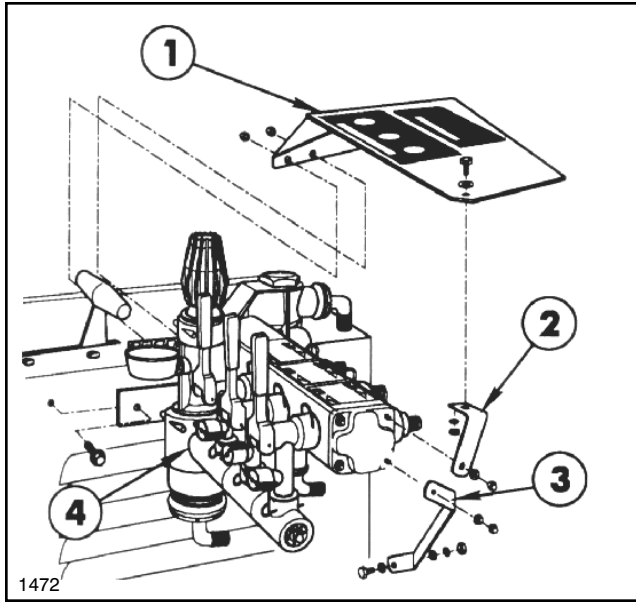

FIG. 3
1. Attach Control Valve/Mounting Bracket Assembly to left side of Seat Box using two (2) 1/4" x 5/8" hex washer hd machine screws. See FIG 3.
2. Remove top two (2) acorn nuts from right end of Control Valve. Attach Splash Shield to the end of Control Valve using two (2) previously removed acorn nuts. **DO NOT TORQUE OVER 30 IN LBS (3.4NM)**. See FIG. 3.
3. Remove upper rear acorn nut from left end of Control Valve. Attach Shield Brace and secure with flat washer and previously removed acorn nut. Mount Shield Brace to Shield with 5/16" hex hd cap screw, flat washer, lock washer, and hex nut. **DO NOT TORQUE OVER 30 IN LBS (3.4NM)**. See FIG 3.
4. Remove lower rear acorn nut from left end of Control Valve. Attach Valve Brace and secure with flat washer and previously removed acorn nut. Attach other end of Valve Brace to middle slot in rear of Seat Box with 5/16" hex hd cap screw, flat washer, lock washer, and hex nut. **DO NOT TORQUE OVER 30 IN LBS (3.4NM).** See FIG 3.